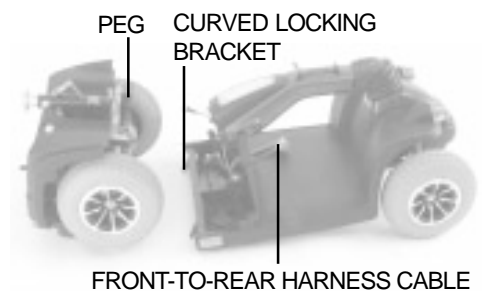

Figure 19. Frame Sections
1. Position the front and rear sections of your scooter as shown in figure 19.
2. Align the lower slots of the front section with the corresponding pegs on the front of the rear section. See figure 19.
**WARNING! Position the front-to-rear harness cable so it won't become pinched between the frame halves when pivoting the rear section forward. See figure 19.**